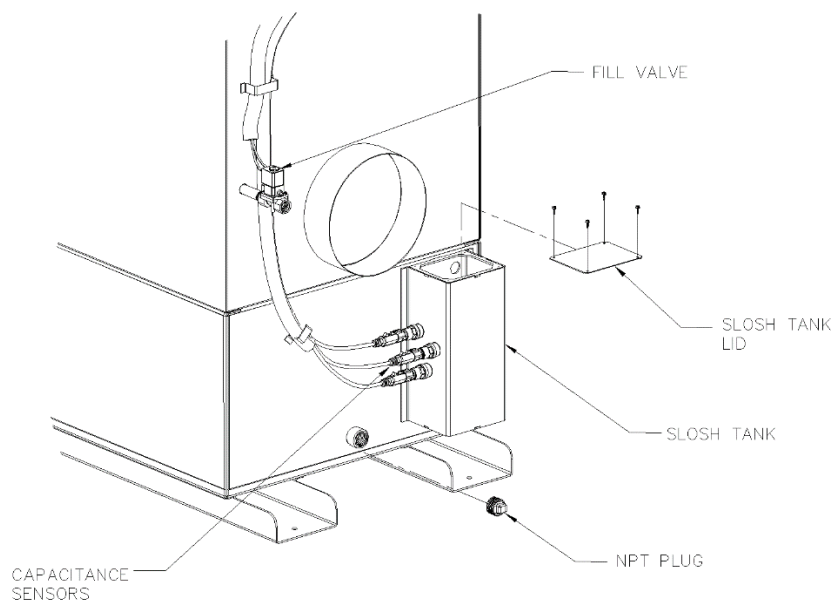

FIG. 1
5. Connect the fill control valve to potable water source via the provided ½" FNPT connection (See FIG. 1).